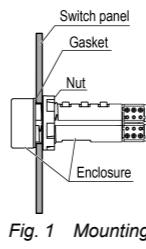

Fig. 1 Mounting
- Carefully position the supplied gasket (see Fig. 1).